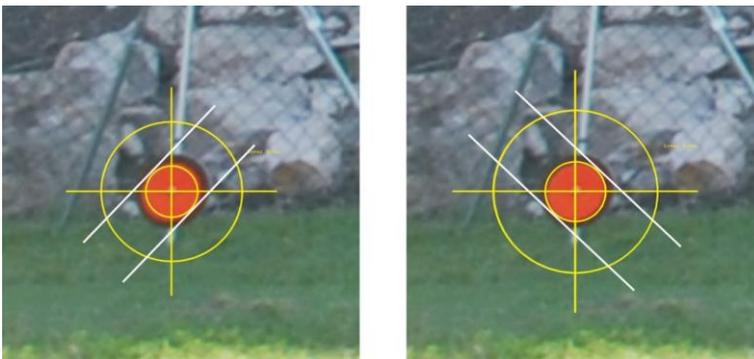

Figure 24: Check of the target center
The reticule is well-centered if the circles touch the target’s boundary simultaneously at two opposing points and in two perpendicular directions (Figure 24).
4. Choose the “*Manual Target Mode*” icon or the “*Automatic Mode Icon*” and centre the target by clicking with the mouse in the viewer. For locating the target discs the image should be zoomed as much as reasonable for visual interpretation. Check the position of the center by changing the size of the reticule. The reticule is well-centered if the circles touch the target’s boundary simultaneously at two opposing points and in two perpendicular directions (Figure 24).
3. Choose the “Manual Target Mode” icon or the “Automatic Mode Icon” and centre the target by clicking with the mouse in the viewer. For locating the target discs the image should be zoomed as much as reasonable for visual interpretation. Check the position of the center by changing the size of the reticule. The reticule is well-centered if the circles touch the target’s boundary simultaneously at two opposing points and in two perpendicular directions (Figure 24).